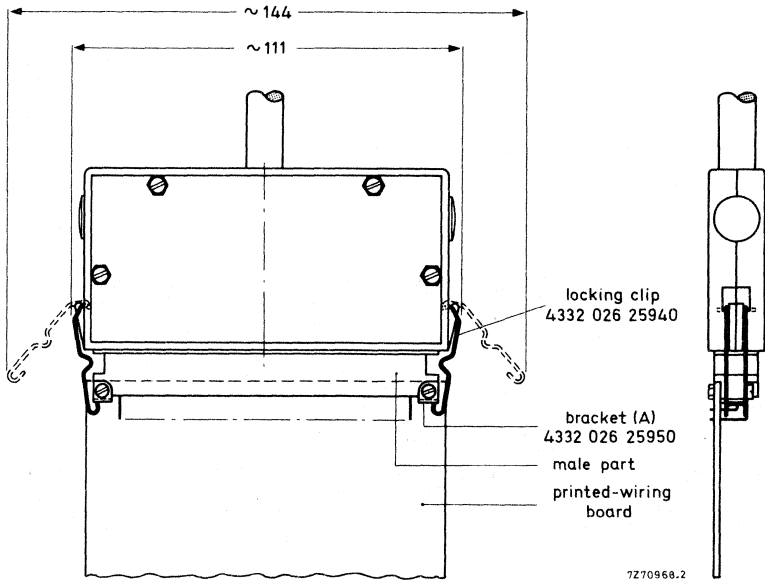

Fig. 44 Cable to printed-wiring board application.
| bracket (A), see Fig. 44 | 25950 |
| mounting bracket for male part (Fig. 44) | 25950 | 10 |